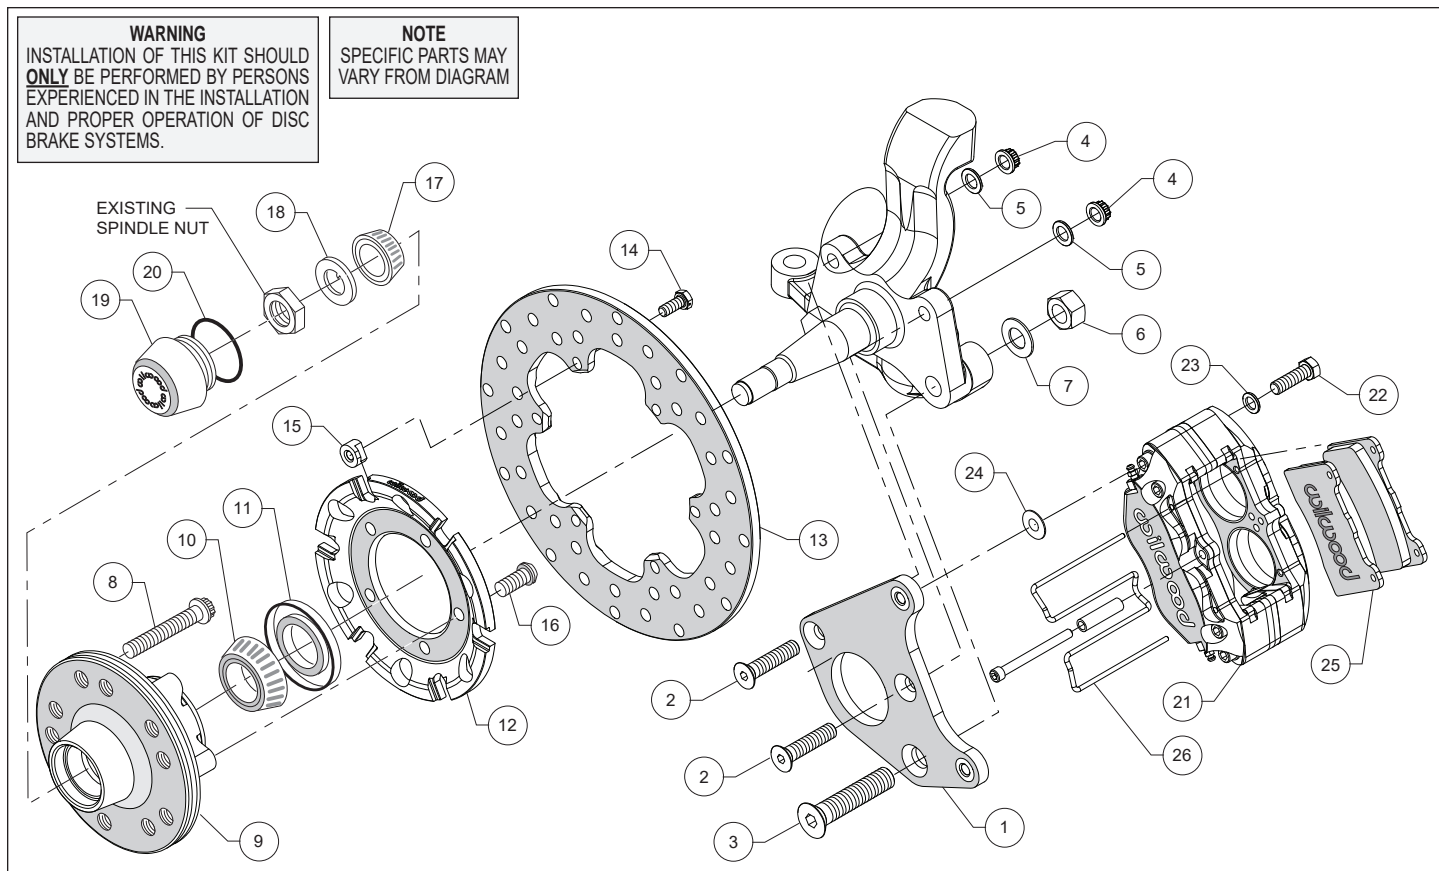
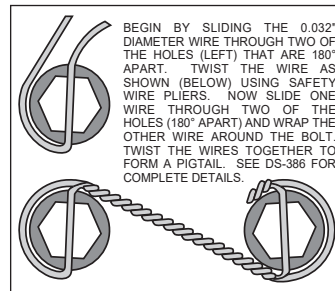
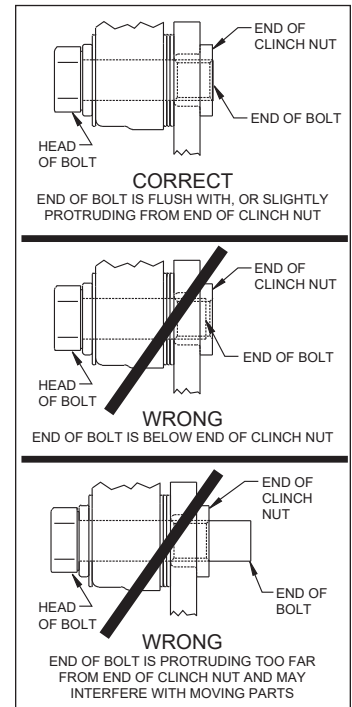

Figure 1. Typical Installation Configuration
Figure 3. Safety Wire Diagram
Figure 4. Clinch Nut Engagement Diagram
Assembly Instructions (numbers in parenthesis refer to the parts list, on the preceding page and Figure 1): **CAUTION:** All mounting bolts must fully engage clinch nuts. Be sure to check that all bolts are either flush or protruding through flanged side of clinch nut after shimming, Figure 4.
- Orient the caliper mounting bracket (1) as shown in Figure 1 and Photo 1. Attach using bolts (2 and 3), nuts (4 and 6) and washers (5 and 7), Figure 1. Temporarily tighten the mounting bolts. Ensure that the flanged heads of the clinch nuts in the bracket are facing outboard, Photo 1. **NOTE:** The bracket must fit squarely against the mounting points on the spindle. Inspect for interference from casting irregularities, machining ridges, burrs, etc. Torque nuts (4) to 47 ft-lbs and nut (6) to 140 ft-lbs.
- Orient the rotor (13) and the rotor adapter (12) as shown in Figure 1 and Photo 4. Attach the rotor to the adapter using bolts (14) and T-nuts (15). Using an alternating sequence, apply red *Loctite*® 271 to the threads, and torque to 220 in-lb. Safety wire bolts using standard 0.032 inch diameter stainless steel safety wire as shown in Figure 3. Refer to Wilwood's data sheet DS-386 (available at www.wilwood.com/Pdf/DataSheets/ds386.pdf) for complete safety wire installation instructions.
- Mount the adapter/rotor assembly (12 and 13) to the hub (9) using bolts (16), as shown in Figure 1 and Photo 5. Using an alternating sequence, apply red *Loctite*® 271 to the threads, and torque to 45 ft-lb.
- Pack the small outer bearing cone (17) with high temperature disc brake bearing grease and install into hub (9). Slide the hub/rotor assembly onto the spindle. Secure using spindle washer (18) and OEM spindle nut, Photo 6. Install saved OEM nut lock (if any) and a new cotter pin (not included). Bearing adjustment: Tighten the nut while turning the hub. When there is a slight bind on the bearings, they are seated correctly. Back the nut off about 1/6 to 1/4 of a turn, or sufficiently to allow .001" to .007" end play. **WARNING:** Failure to back off adjusting nut could cause bearing to run hot and be damaged, which could cause the wheel to lock or come off.
- Screw dust cap (19) into hub (9), Photo 7. Friction created by the o-ring (20) on the dust cap keeps it from unscrewing. **NOTE:** The O.D. of the existing OEM spindle washer may be larger than the I.D. of the dust cap not allowing it to seat against the hub face. Therefore, use the spindle washer (18) supplied with the kit instead of the OEM washer.
- NOTE:** Please reference the caution statement at the beginning of the assembly instructions. Mount the caliper (21) onto the caliper mounting bracket (1) using bolts (22) and washers (23), as shown in Figure 1. Initially place one .035" thick shim (24) on each bolt between the caliper and the bracket, Photo 8. Temporarily tighten the mounting bolts and view the rotor (13) through the top opening of the caliper. The rotor should be centered in the caliper, Photo 9. If not, adjust by adding or subtracting shims (24) between the bracket and the caliper. Always use the same amount of shims on each of the two mounting bolts. **NOTE:** The end of each bolt must be flush with or slightly protruding from the head of the clinch nut, as shown in Figure 3. If necessary place spare shims between washer (23) and caliper mounting ear to achieve the proper clinch nut engagement. Once the caliper alignment and clinch nut engagement are correct, remove the bolts one at a time, apply red *Loctite*® 271 to bolt threads, and torque to 40 ft-lb. For an added measure of security, the bolts may be safety wired using standard 0.032 inch diameter stainless steel safety wire as shown in Figure 3. Refer to Wilwood's data sheet DS-386 (available at www.wilwood.com/Pdf/DataSheets/ds386.pdf) for complete safety wire installation instructions.
- Install the disc brake pads (25) into the caliper, with the friction material facing the rotor (13), Photo 10, and secure in place using pad retainer clip (26), Photo 11.